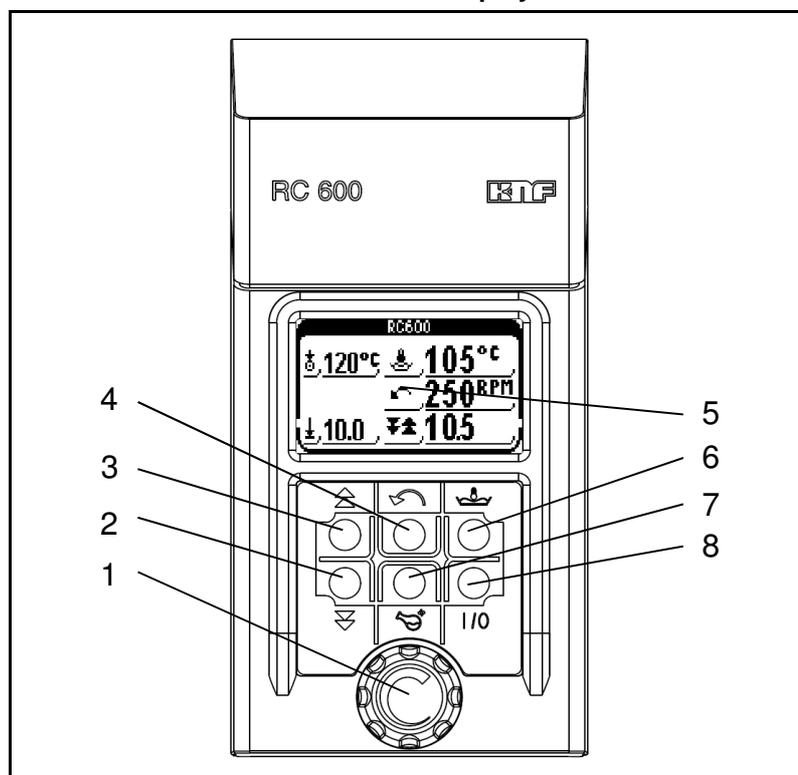
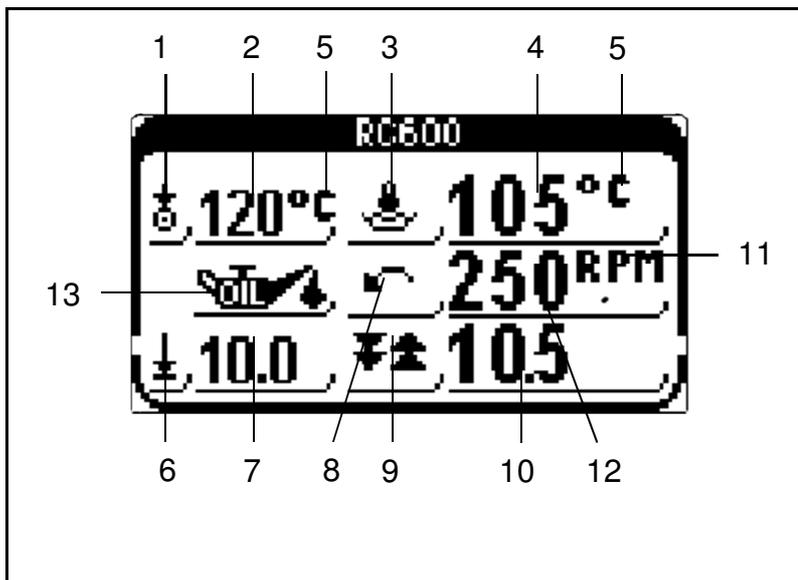
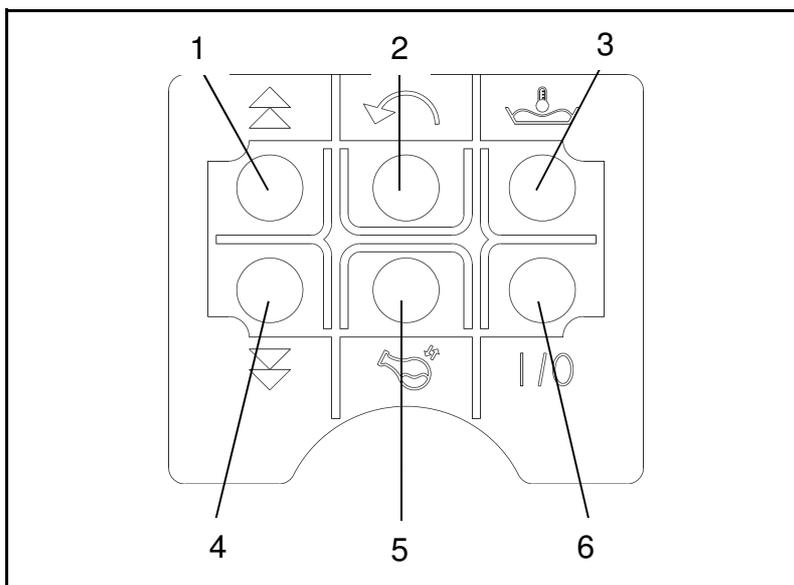

Fig. 9: Terminal
Fig. 10: Displays on the screen
Fig. 11: Buttons on the membrane keyboard
- the rotary knob (Fig. 9/1) and
- the membrane buttons (Fig. 9/ 2+3+4+6+7+8).
- Displays setpoint and actual temperature (Fig. 10/ 2+4, page 34);
- Displays the height of the digital end stop and the evaporator flask (Fig. 10/ 7+10)
- Displays the speed of the evaporator flask (Fig. 10/ 12)
- Display Oil mode (Fig. 10/ 13)
- Operating keys (Fig. 11) with the functions:
- Switch heating bath on and off (6)
- Heating bath selection (3)
- Switch rotation on and off (2)
- Raise lift (1)
- Lower lift (4)
- Exchange flask function (5)
The various safety settings can be changed by pressing the buttons simultaneously (Fig. 11/2+3).
b) To change the unit of temperature, press button 3 (Fig. 11/3) for 5 seconds. This is confirmed with an acoustic signal.
c) To change the heating fluid (Oil mode since SW Version 6.00), press button 6 (Fig. 11/6) for 4 seconds. This is confirmed with an acoustic signal and with an icon on the display (Fig. 10/ 13).
Use the button (Fig.11/6) to switch the heating bath on and press it again to switch it off.
When the heating bath or rotation of the evaporation flask is switched on, the corresponding icon will flash (Fig. 10/1+8).
Tab. 2 * according to Fig. 11
The immersion depth can be raised via button 1(see Fig. 11/1) or lowered via button 4 (see Fig. 11/4).
- Press button 1 or 4 (see Fig. 11/1+4) and then turn rotary knob 1 (see Fig. 9/1) to finely adjust the lift.
- Hold button 5 (see Fig. 11/5) for 5 seconds to apply the current position of the evaporation flask. The flask cannot pass the stored position. Press the button again for 5 seconds to delete the stored position.
- When you press the Exchange flask function button (Fig. 11/5) the flask moves to its top position. Rotation is stopped.
- When you press the Exchange flask function button (5) again, the evaporator flask returns to the stored position and rotation is started again.